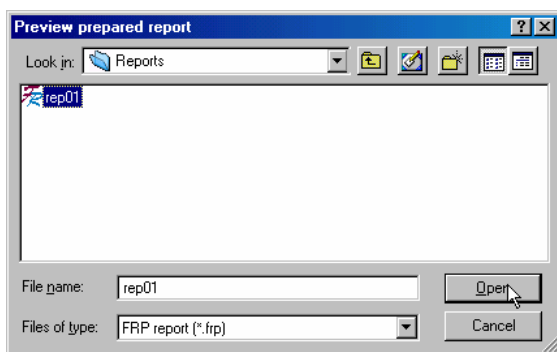

Figure 36 – Preview Saved Reports
- ✦ Select the FRP file to view (see Figure 36).